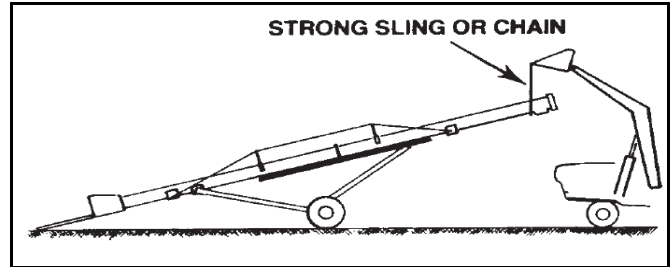

**Figure 3.18**
6. Loop 1/4" cable through track roller unit as shown (Figure 3.19) and anchor end to track (seen in Figure 3.18). Make sure that cable clamps are properly installed onto cable as shown in Figure 3.17.